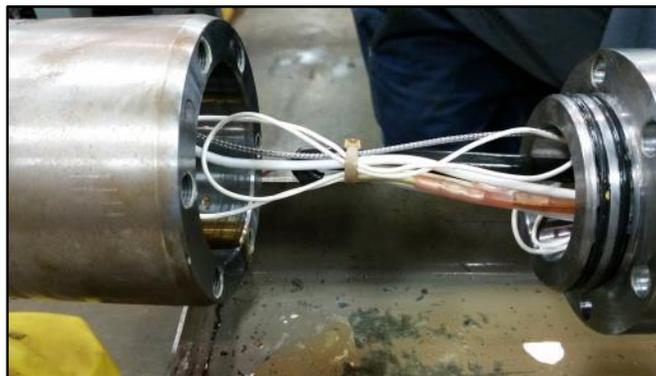

Figure 12: Bundle the Wires and Zip Tie
2. Neatly bundle the RTD and signal wires and secure using high-temperature zip ties. See FIGURE 12.